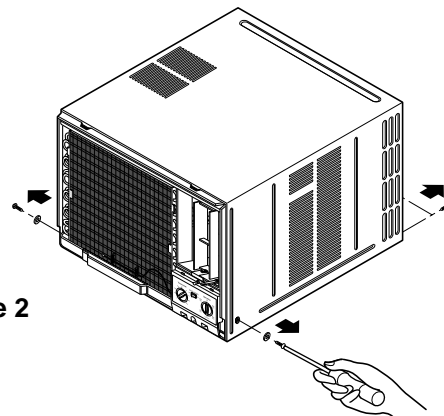

Figure 2
2. Remove the two screws which fasten the cabinet at back. (See figure 2)